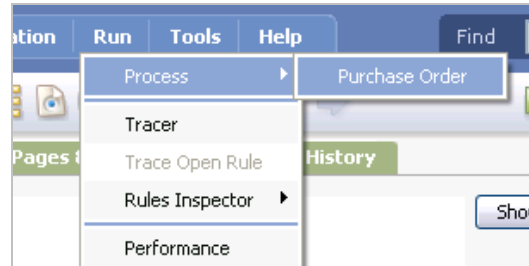

Figure 3-35. Run Menu
14. Test your process changes using the Run menu. Select **Run > Process > Purchase Order** and create a new purchase order request (Figure 3-35). You do not need to log out, but can act as the entry user, manager, and VP.